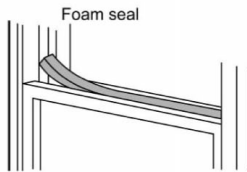

Fig.9
3. Cut the foam seal to an appropriate length and sealing the open gap between the top window sash and outer window sash. Show as in Fig.9 .